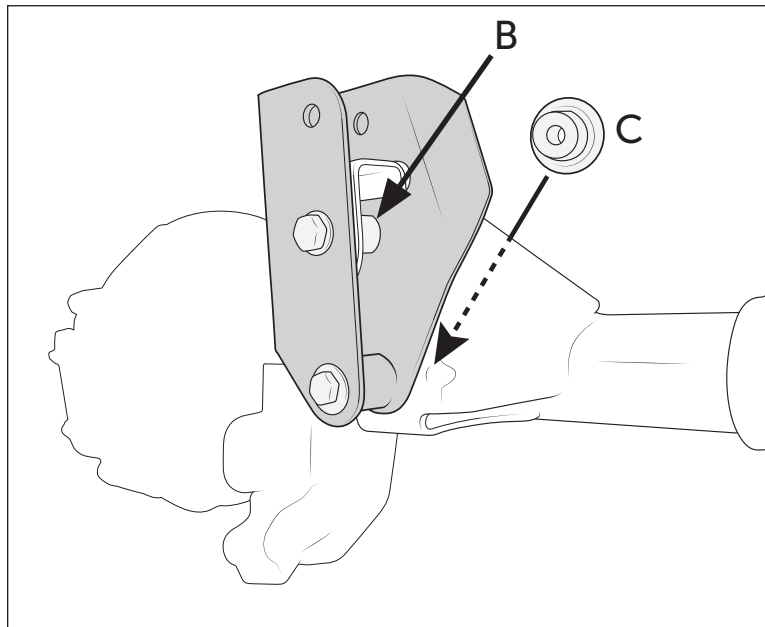

Figure 6
- B. Install the track bar tower in the orientation shown (Fig 6).
- C. Place supplied tube spacer between AEV bracket and factory axle bracket in original track bar location. Reuse factory bolt in this location (Fig 6-B).
- D. Install alignment puck into back side of factory axle bracket(side facing toward front of vehicle) and through the lower tube on track bar tower. Some resistance is normal to fully seat the alignment puck. Install M12x90mm bolt and washer from outer side of bracket, through alignment puck, and install flange nut (Fig 6-C). Nut may need to be tightened to fully seat alignment puck.